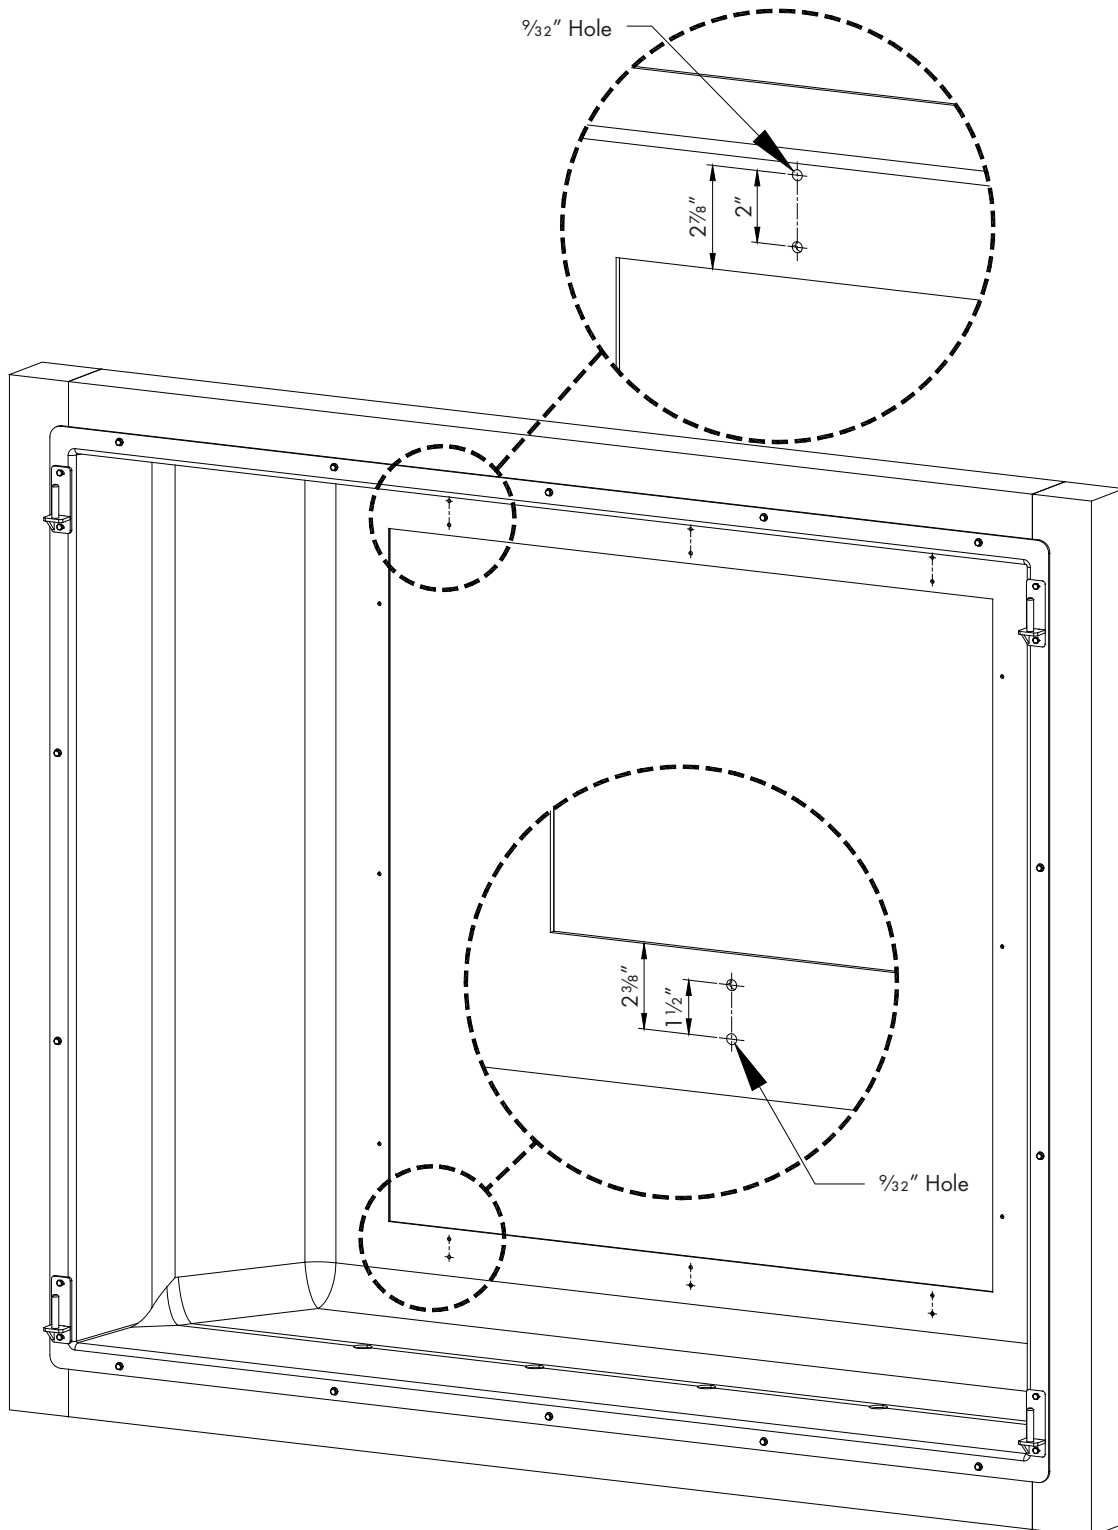

Figure 5A
Snap a horizontal chalk line 2" above the 3 mounting holes above the top edge of the fan opening and 1½" below the 3 mounting holes below the bottom edge of the fan opening. Then drill (3) ⅝" holes in the face of the LTX Housing directly above the upper holes and (3) ⅝" holes directly below the lower holes. See Figure 5A.